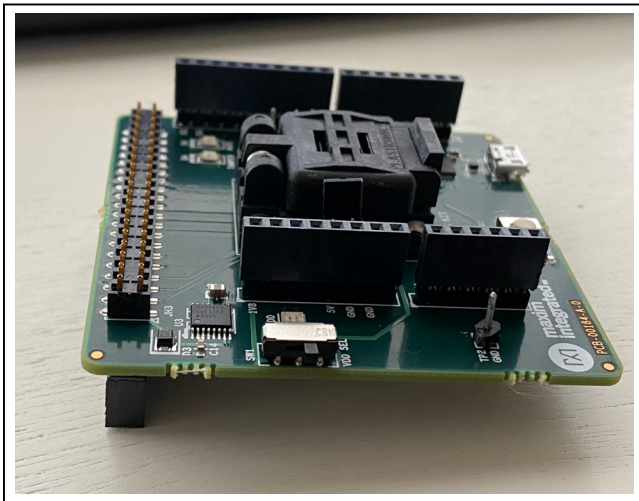

Figure 2. MAXQ1065 Socket Board with an Elevated Header Installed
- 2) Connect the elevated header onto the bottom side of the JH3 connector, as shown in Figure 2.